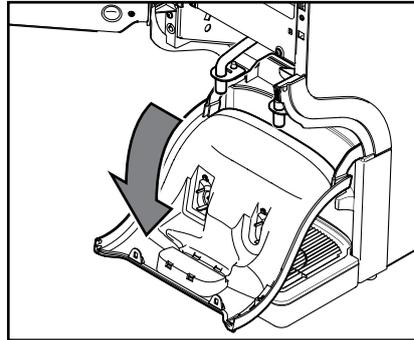

Fig. 43
- c. Pull the outlet cover down (fig. 43).